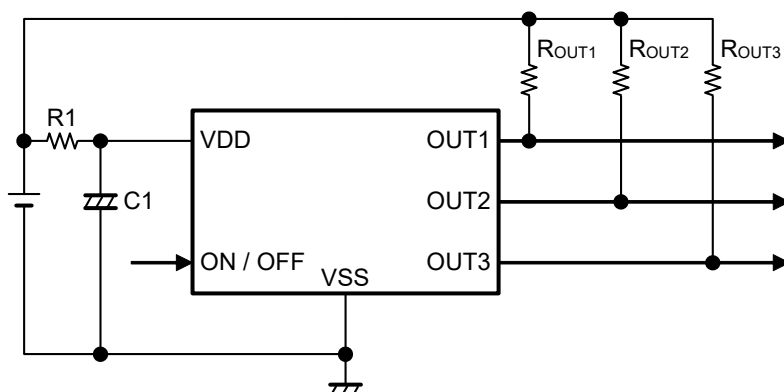

Figure 7
- In applications where a resistor is connected to the input (refer to **Figure 7** in "■ Standard Circuit"), the feed-through current which is generated when the output switches causes a voltage drop equal to feed-through current \times input resistance. In this state, the feed-through current stops and its resultant voltage drop disappears, and the output switches. The feed-through current is then generated again, a voltage drop appears. Note that an oscillation may be generated for this reason.